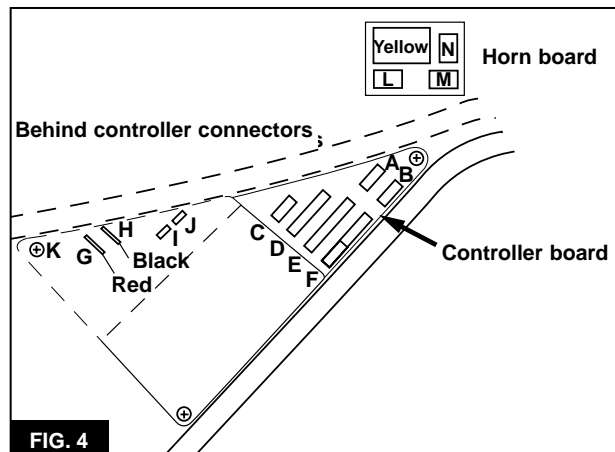

FIG. 4
4. Disconnect the throttle control connector (F, **Figure 4**) from the controller board. Note how the throttle control wire is routed through the frame. The new wire will have to be rerouted along the same path.
4. Feed the cable around the head tube, through the cable inlet in the left side cover, and plug the connector into position (F, **Figure 4**) on the controller panel.
4. Disconnect the accessory control connector (E, **Figure 4**) from the controller board. Note how the accessory control wire is routed through the frame. The new wire will have to be rerouted along the same path.
3. Feed the wire around the head tube, through the cable inlet in the left side cover, and plug the connector into position (**E, Figure 4**) on the controller panel.